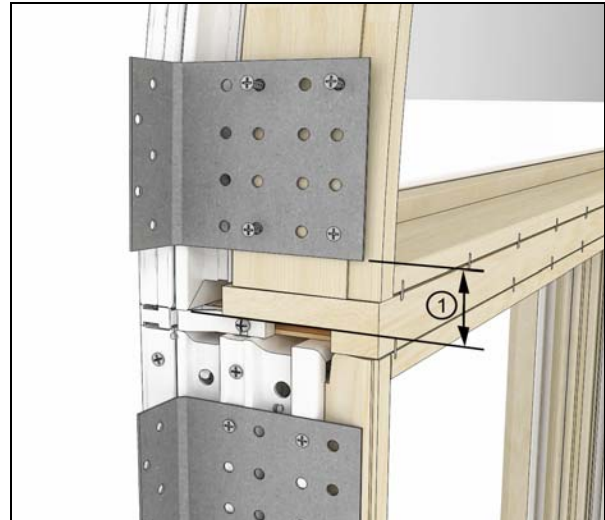

Figure 9
2. At the roundtop, place a mull clip at each mull point starting 1 1/2" from the mullion. Attach these with eight #7 x 5/8" Phillips flat head screws. See Figure 9.